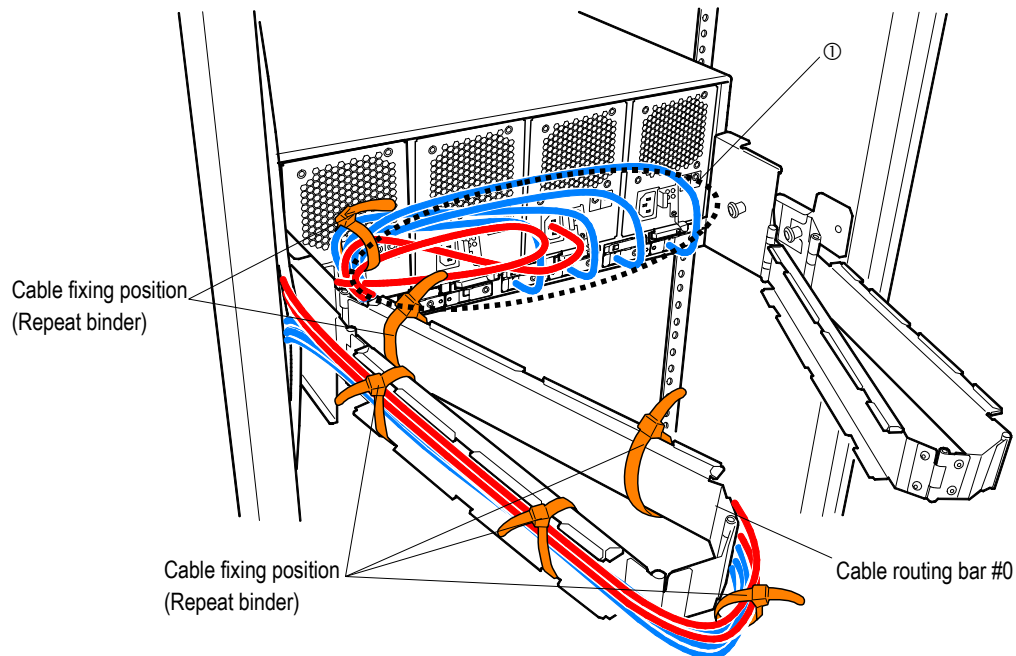

**Figure 2.5.37 Routing of the Power Cable #B0**
- (b) Route the power cable #B0 as shown in the Figure 2.5.37.